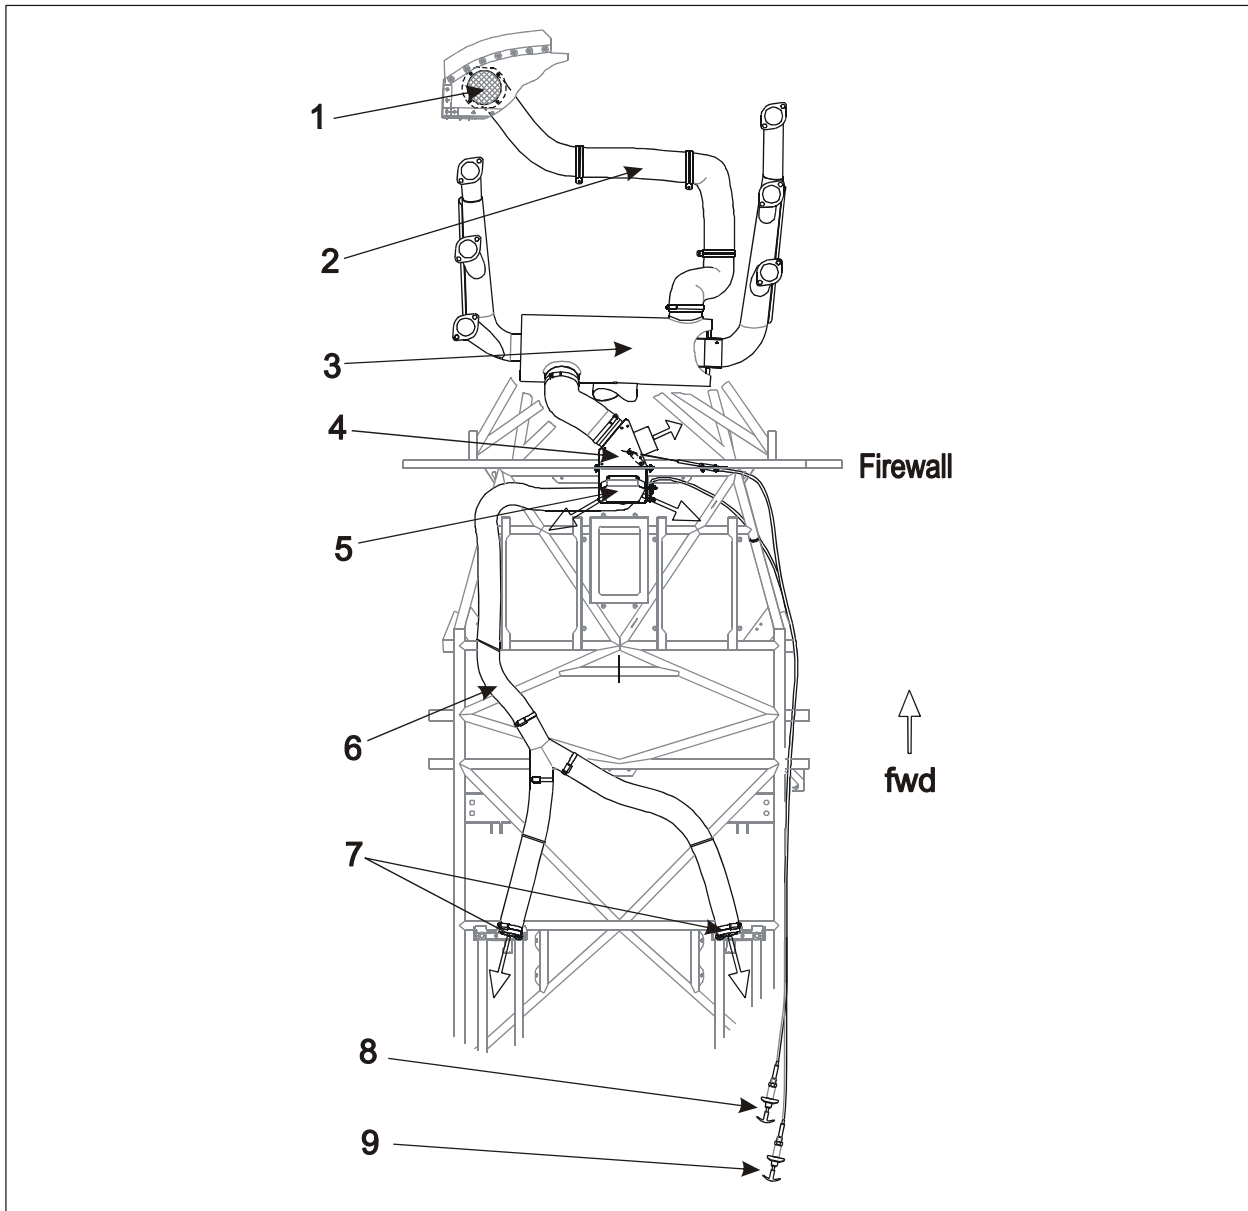

Figure 1
On the left front engine baffle a 3" air intake (1, figure 1) with screen is positioned. From there fresh air is routed through a 3" ducting (2) to the exhaust muffler heat shroud (3), where it is heated up. A selector box (4) is placed on the engine side of the firewall. Using the main handle (9) the warm air can there be guided into the cockpit or dumped overboard. A further selector box (5) is located on the aft side of the firewall. Using the distribution handle (8) the ratio of warm air supply between front and rear can be controlled there. The rear selector box incorporates the warm air dispensers for the front occupant as well as the flange for the 2" ducting (6) to the air outlets (7) at the pilot's feet.